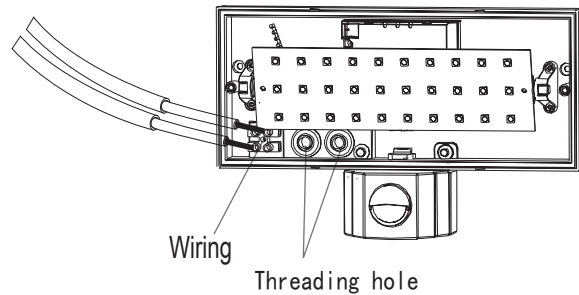

Fig.3
- Step3 Connect the cable to the lamp through the cable entry openings(as Fig.3)